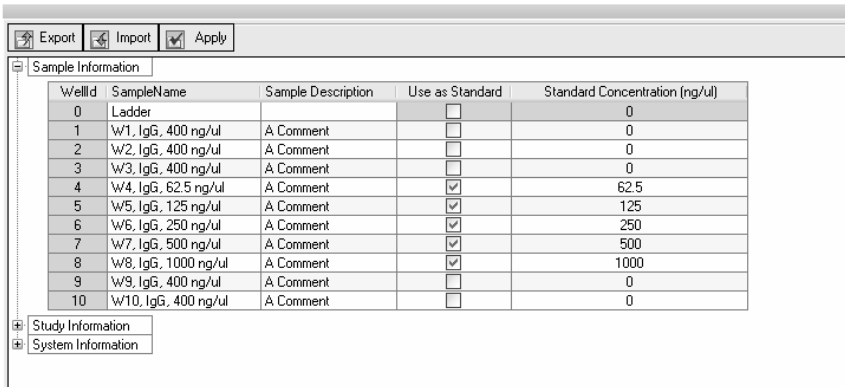

Fig. 3.3. Designating calibrants in the Run Info tab.
4. Under the **Run Info** tab, designate the wells that contain the proteins for the calibration curve (wells 4–8 in the **Use as Standard** column) and enter their concentrations (Figure 3.3). Click **Apply**.